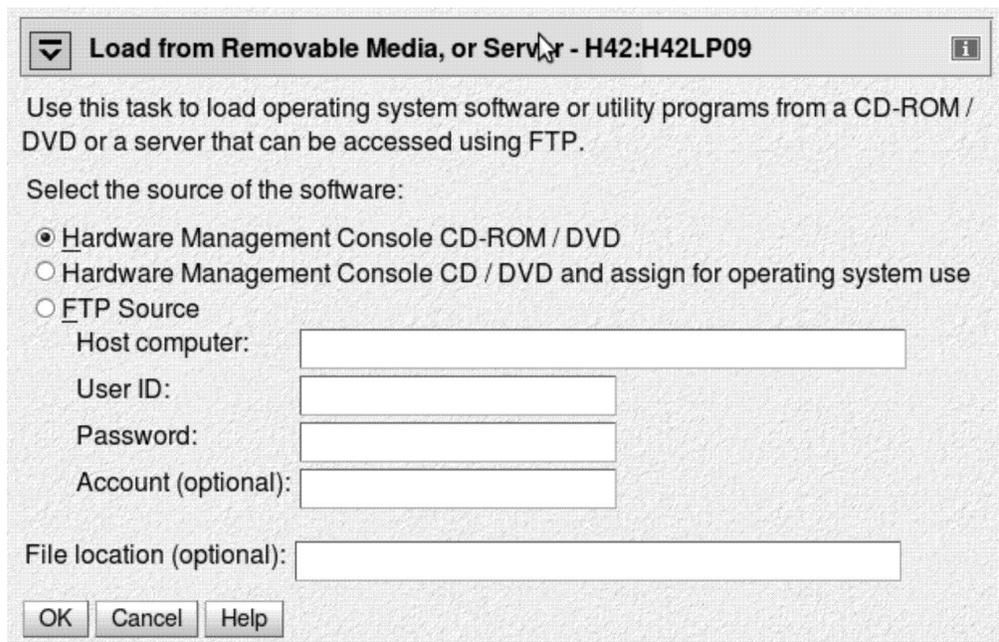

Figure 19. Load from Removable Media or Server panel
- a. Select **Hardware Management Console CD-ROM/DVD** (see Figure 19).